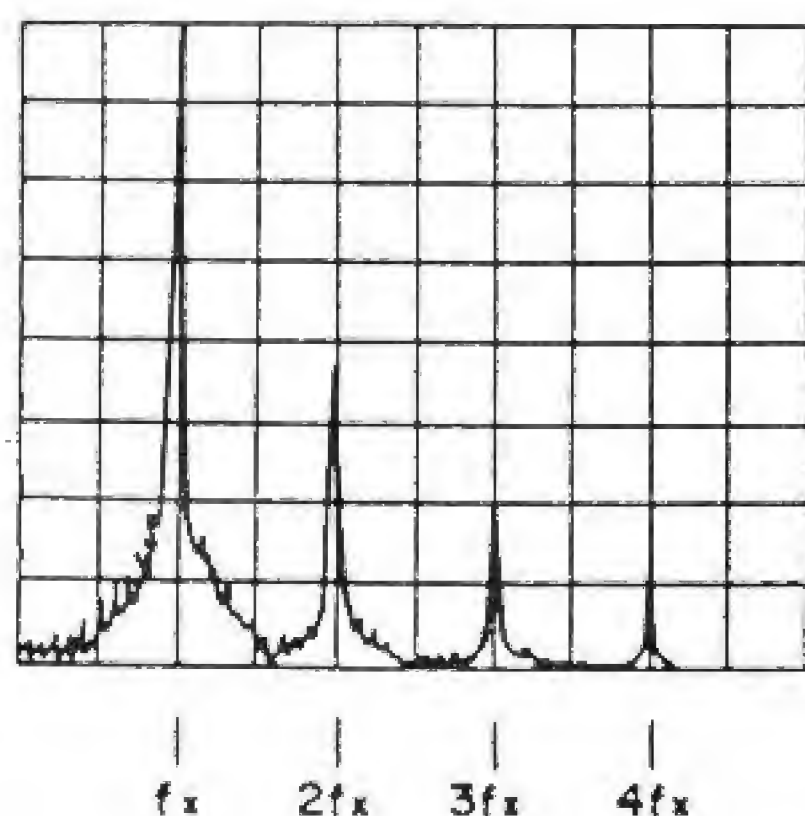

Fig. 3-17 Harmonics Spectrum
- (b) The fundamental wave spectrum of the unknown signal is adjusted using REFERENCE LEVEL as shown in Fig. 3-17. When the fundamental wave and harmonics cannot be displayed simultaneously, measure the fundamental wave and the harmonics separately.